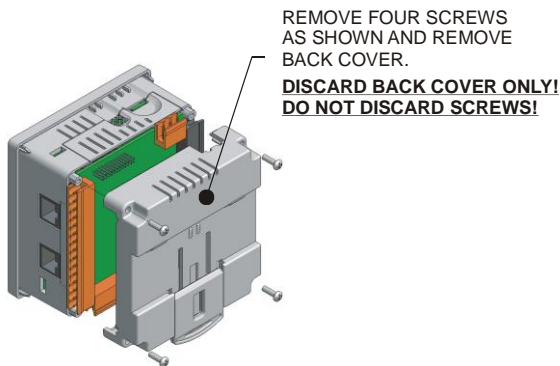

Figure 1 - Removing Back Cover of the XLE
- Remove the four screws on the back of the XLE unit and remove the back cover. The back cover can be discarded or saved, but it will be replaced with the extended back cover that ships with the communication add-on. Screws are re-used (Figure 1).